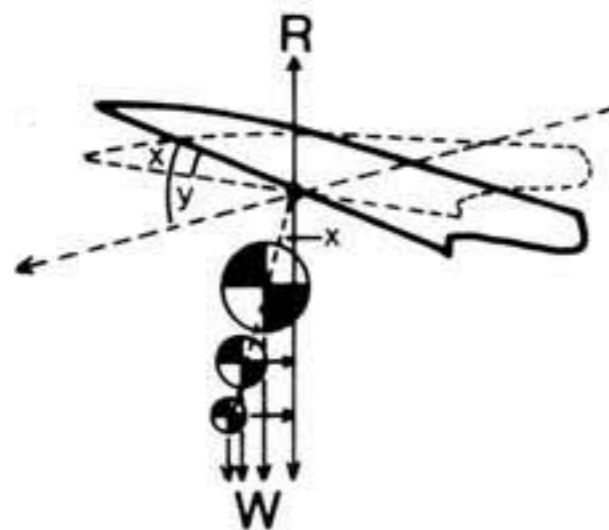

Fig. 20 Control input relative to CG vertical position.
8.2 As we just said, control in pitch is effected by deflecting the angle of attack away from the trim angle. Fig.20 shows that where x degrees is the desired angular change from y degrees which is the trim angle of attack, the CG will need to be deflected forward by x degrees from a point, which for simplicity's sake we'll call the hang point. It also shows that the larger the triangle the less effort there is required to change the angle of attack, but the greater the distance that that effort has to travel.